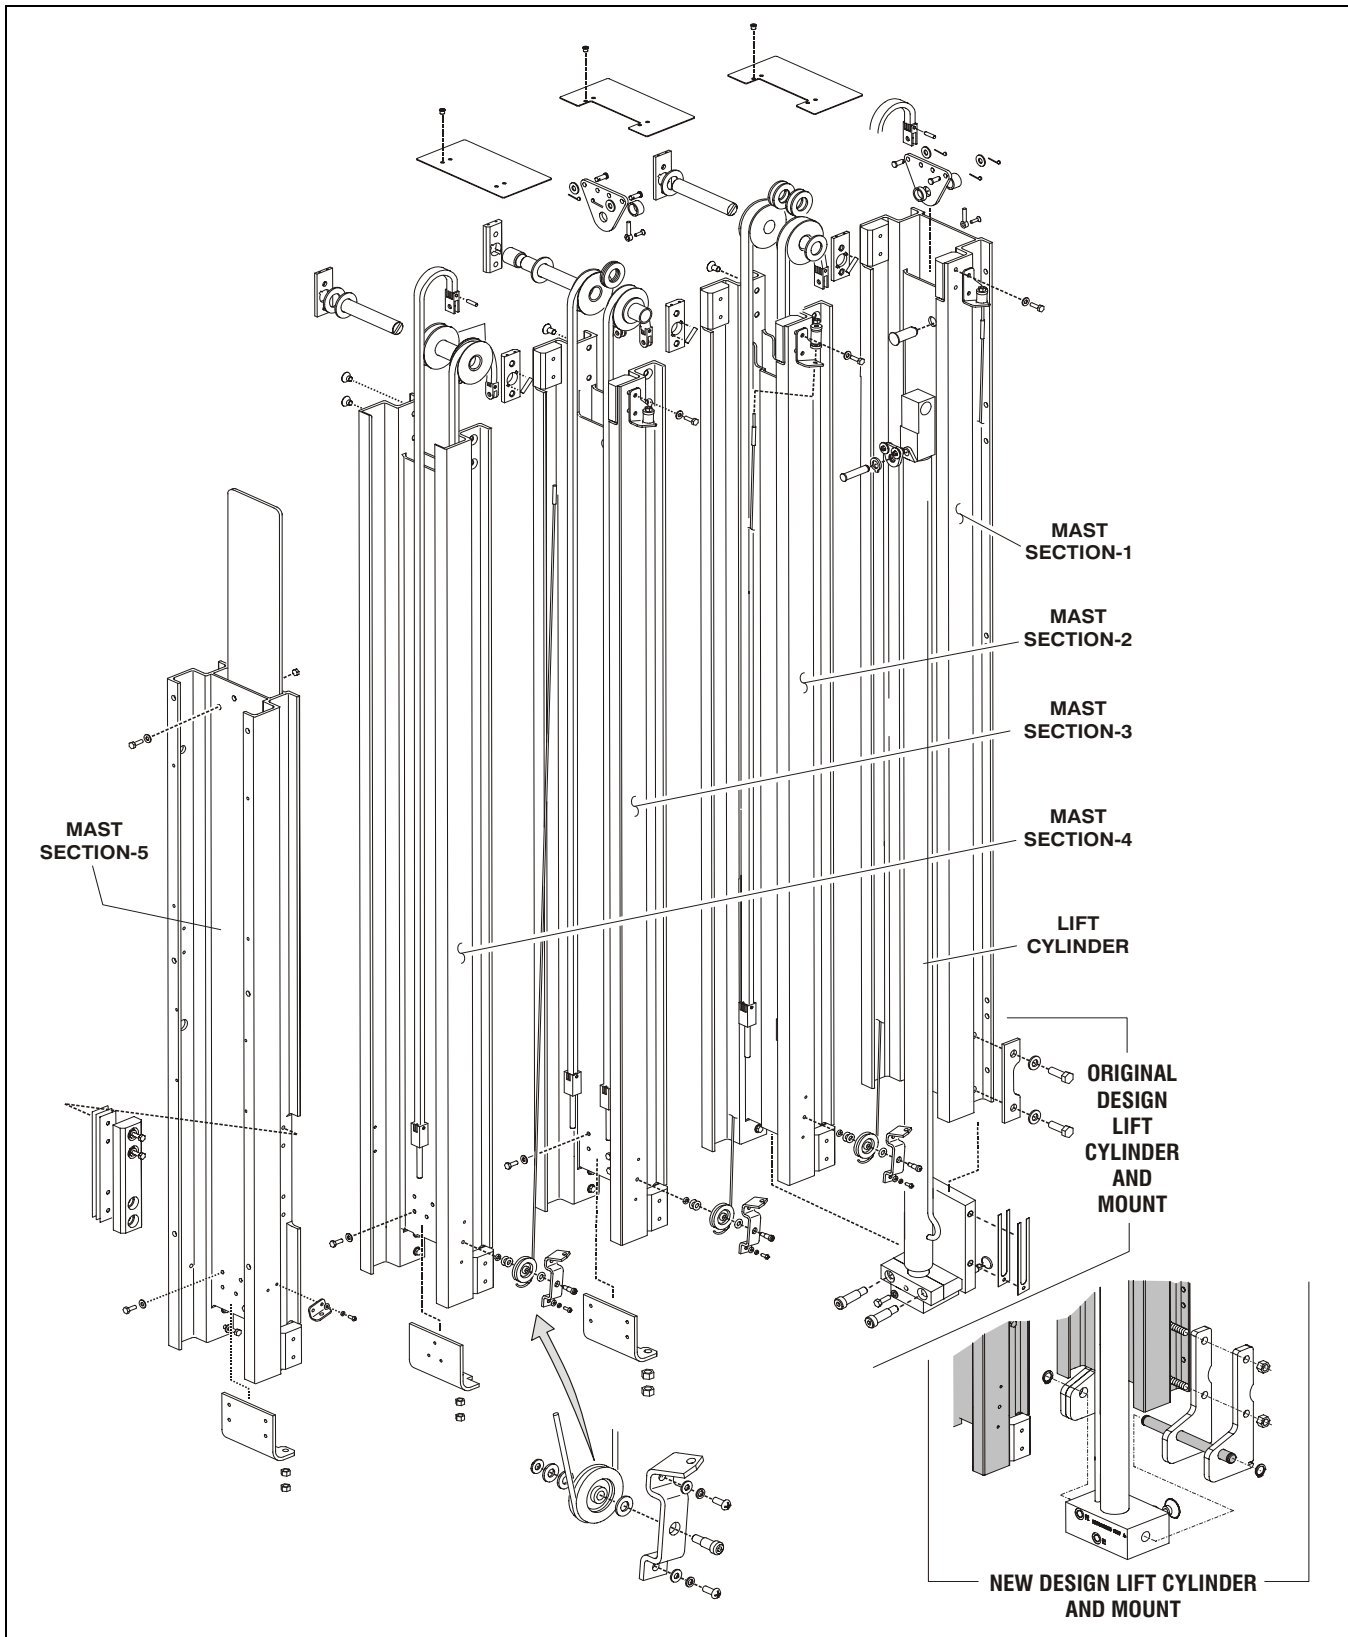
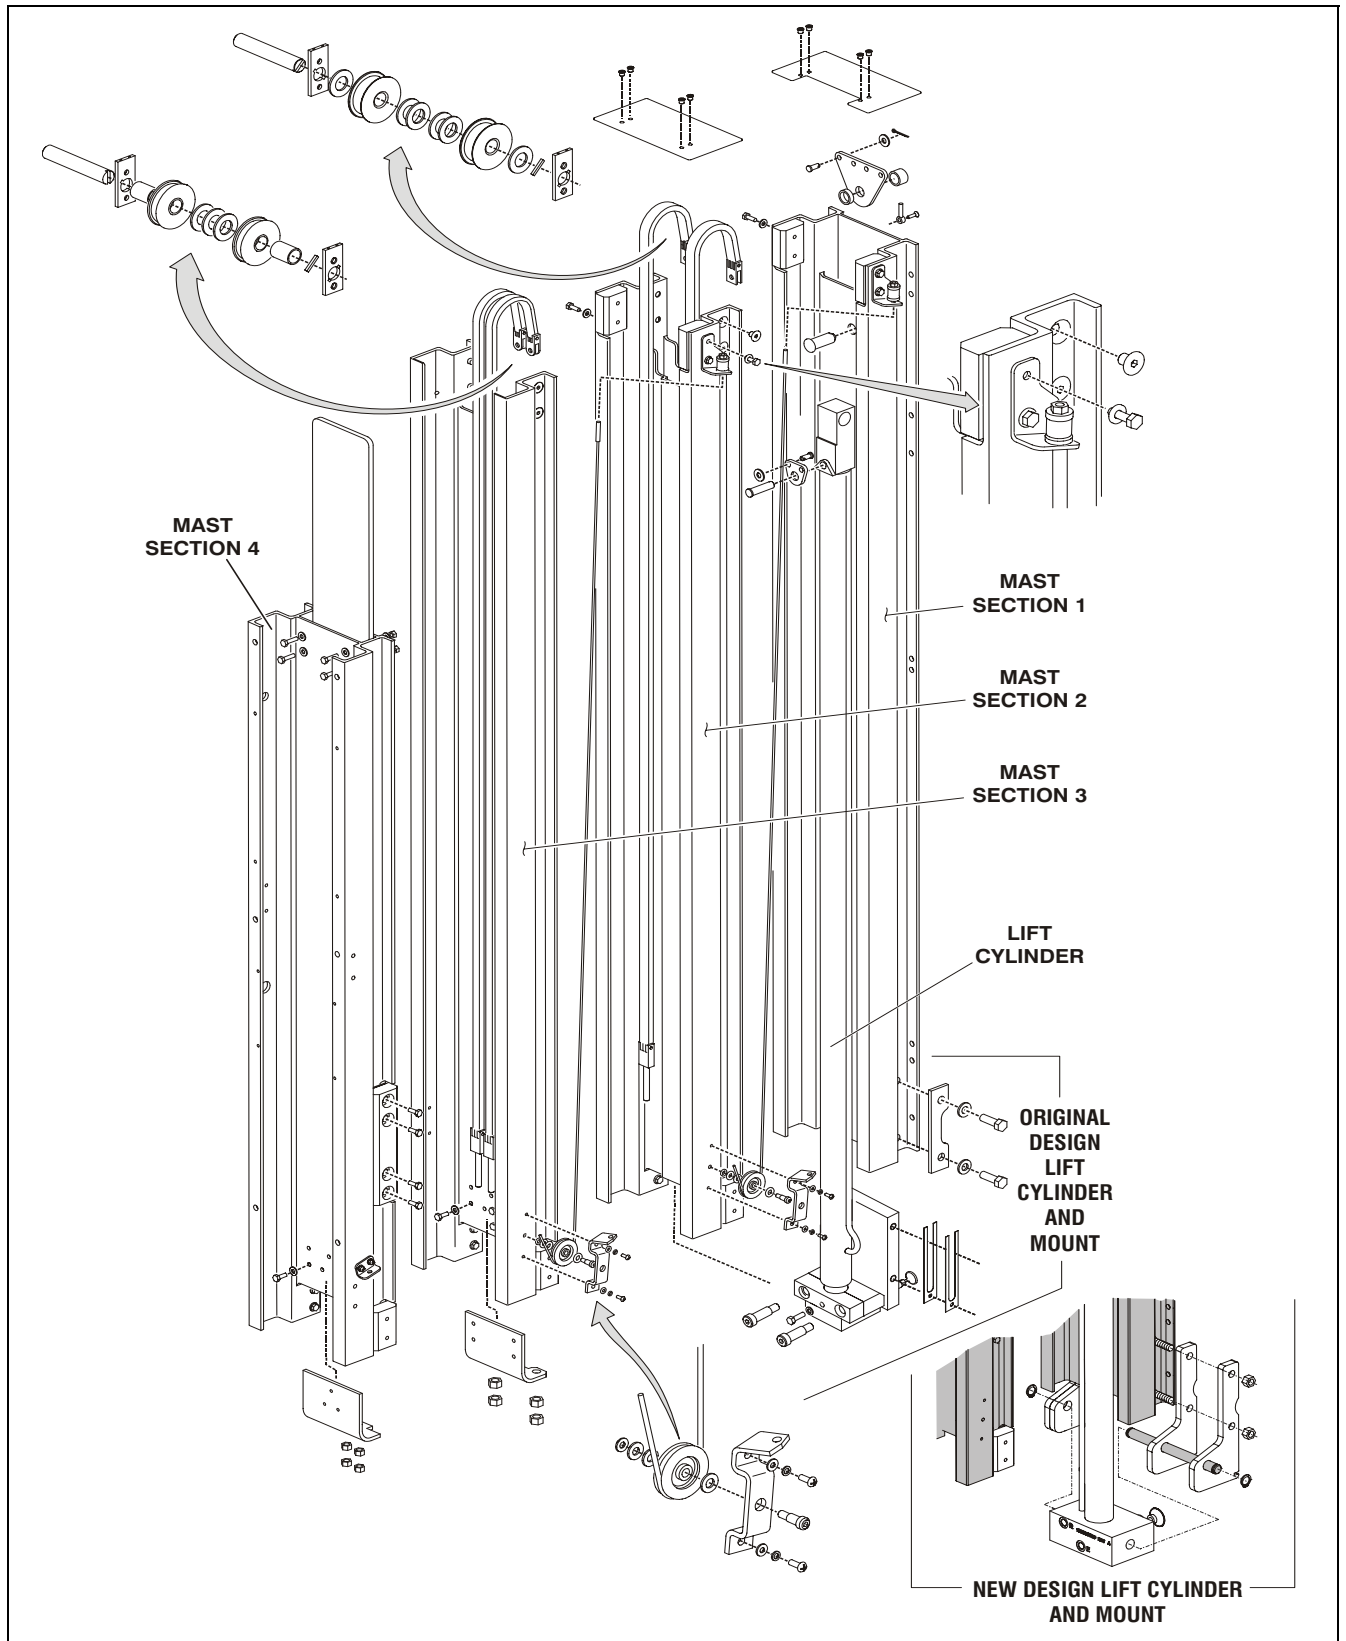
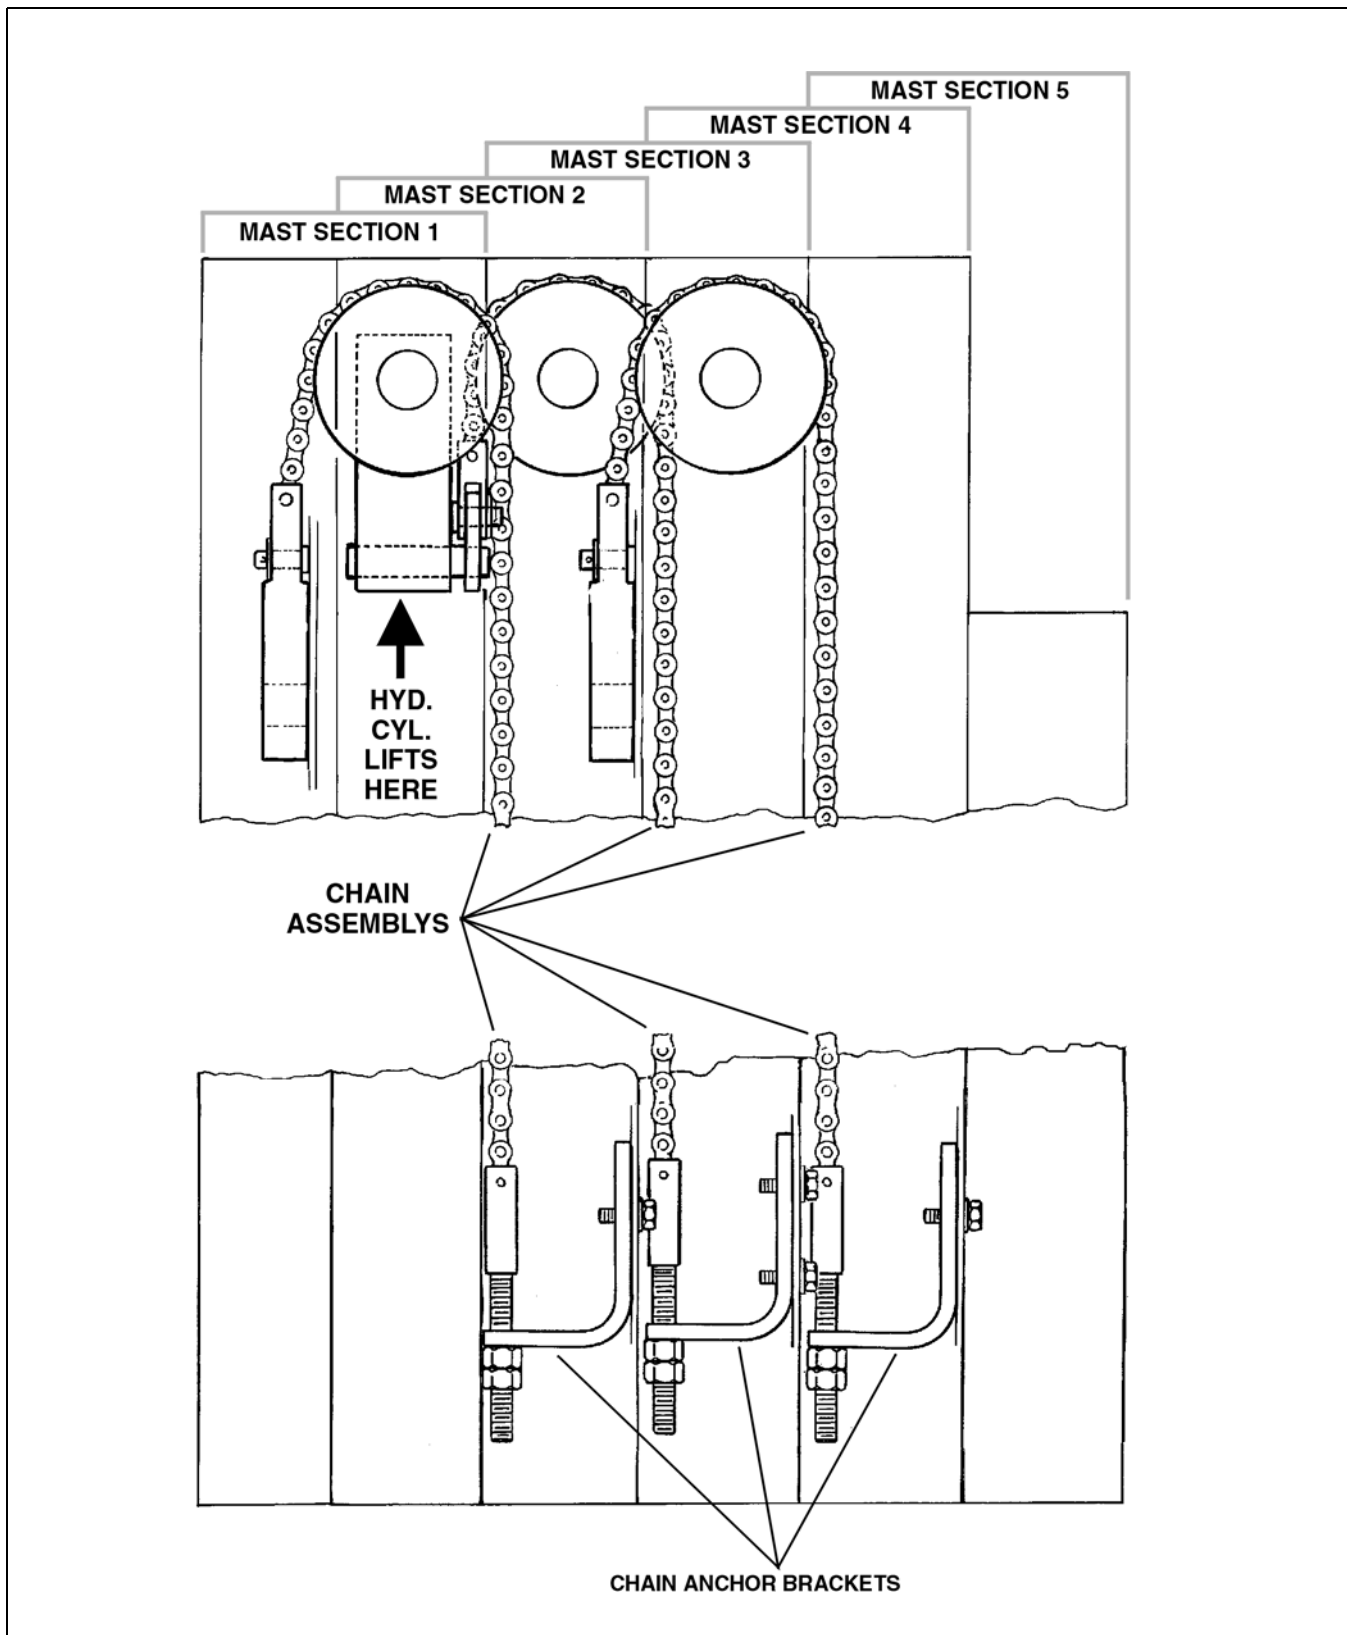

Figure 2-3. 15SP Mast Assembly Components. (5 Section)
Figure 2-4. 12SP Mast Assembly Components. (4 Section)
Figure 2-5. Mast Chain Routing Diagram.
**NOTE:** The following procedures are used for both the four (4) and five (5) section masts. When referring to the mast sections in these procedures a split mast section number like 4/5 will refer to either section-4 or section-5 depending on which applies to your mast assembly. See Figure 2-3. & Figure 2-4.
(See Figure 2-3., Figure 2-4. & Figure 2-5.)